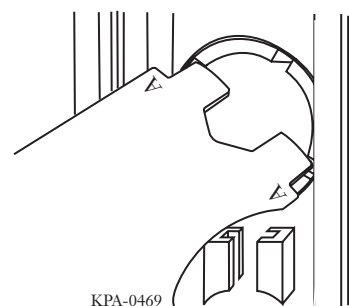

Figure 25 — Lock Nut
**Step 2** Use the end cap gauge to tighten the nut until it stops and is tight (Figure 25).